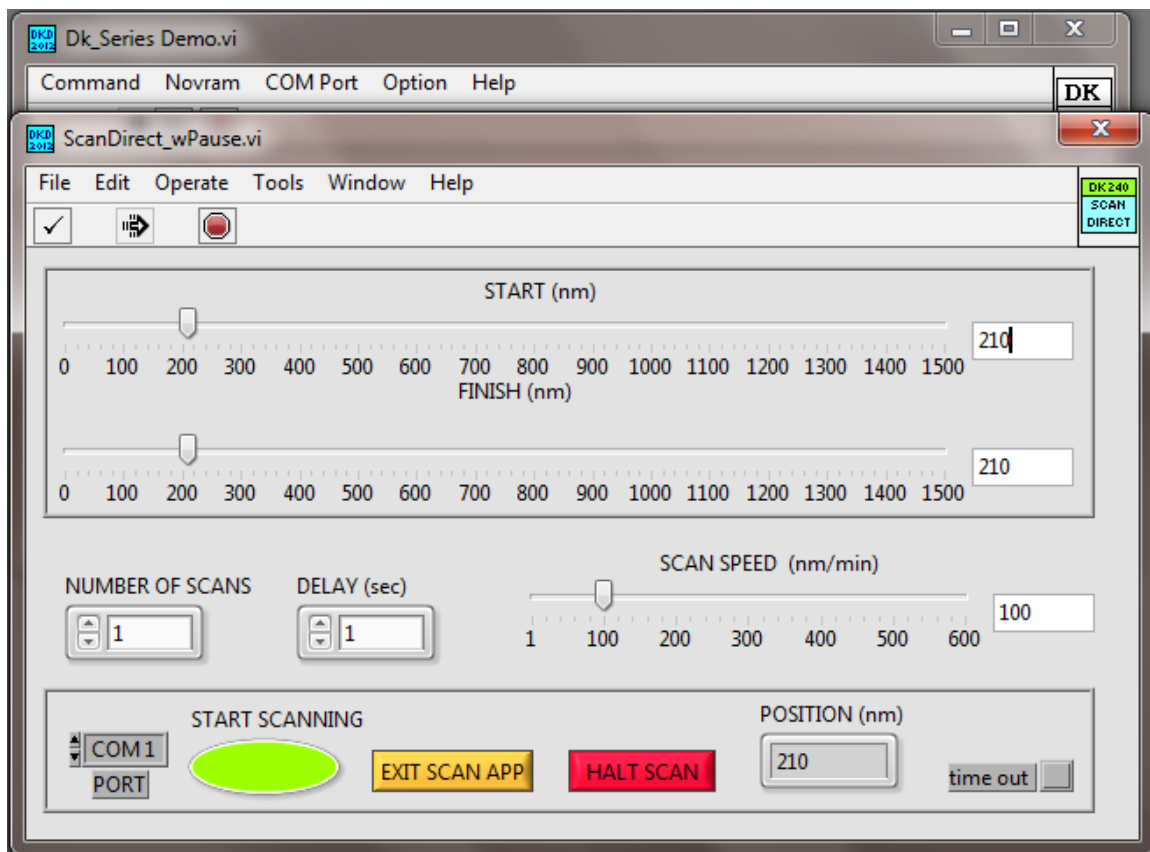

Figure 6. Scan
9.2.2 Scan – The scan function allows the user to scan the grating from a specified starting wavelength to a specified ending wavelength at a user specified scan speed (Fig 6). Values may be entered either by using the slider bars or inputting a value in the corresponding text boxes. First, enter the desired starting and ending scan wavelengths. Scan speed may be changed using this vi as well. See Table 1 for valid scan speed extents. Enter the number of scan repetitions, and delay time between scans. Press the START SCANNING button to begin the scan. Scan may be halted at any time during a scan by pressing the HALT SCAN button. Press EXIT SCAN APP to quit the vi.